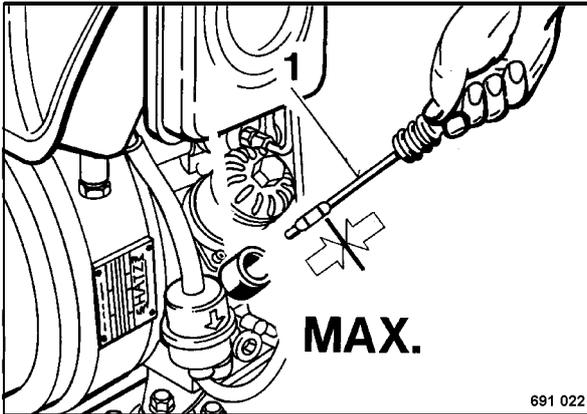

Fig. 52
- Pull the oil dipstick (Fig. 52) out, wipe it with a clean, lint-free cloth and reinsert it until it bottoms.